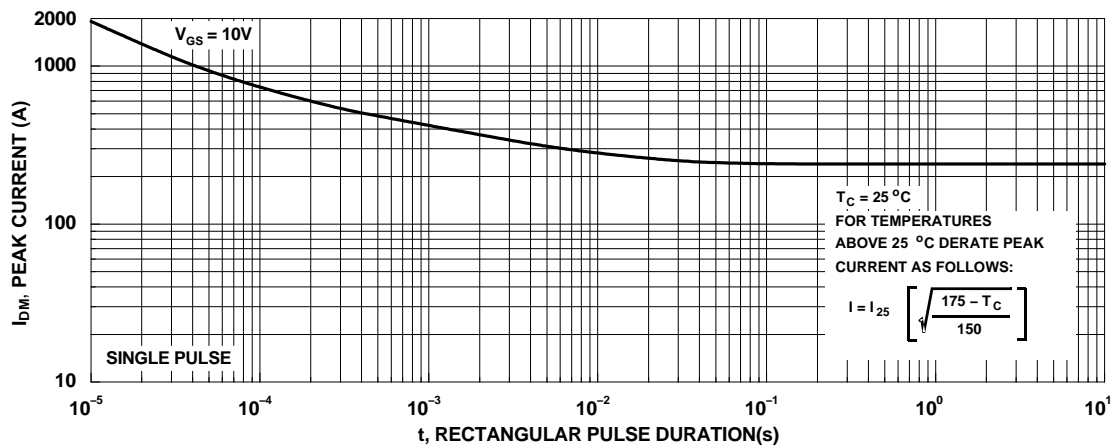

Figure 4. Peak Current Capability
–Pulsed $T_C = 25^\circ\text{C}$	See Figure 4